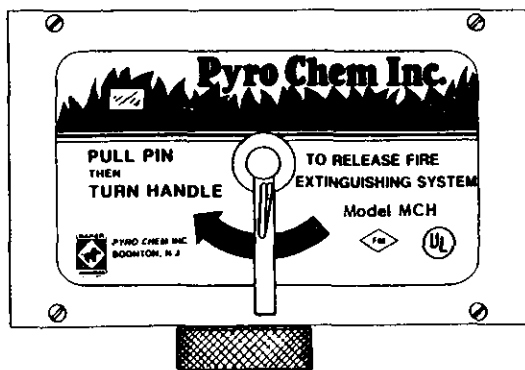

Figure 1-4. Electrical Control Head
2. Model ECH-System Control Head — The Model ECH-system control head is an electrically operated control head which can be mounted to all Model PCL-165/275/550 Pyro Chem cylinder valves. This control head will not support a fusible link detection system. It will support a remote mechanical pull station and a mechanical gas shutoff valve. It is equipped with a factory installed solenoid operator. (See Figure 1-4). This solenoid operator is available in both 24 VDC and 120VAC. The system control head is provided with a local manual control handle which is a double action device. Operation of the local manual control requires removing the pull pin and rotating the handle clockwise.